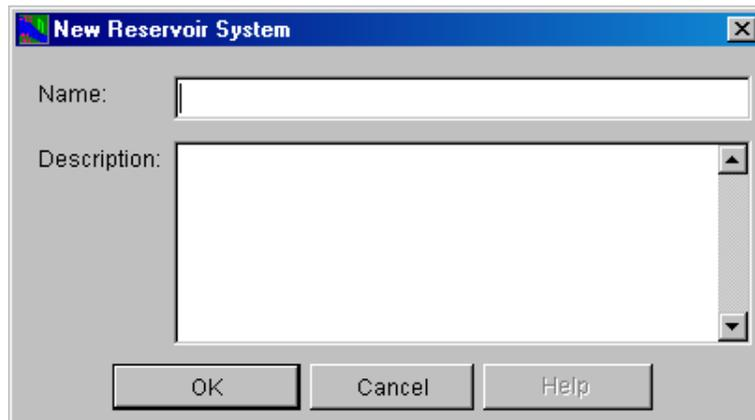

Figure 12.14 New Reservoir System Dialog Box
1. From the **ReservoirSystem** menu, select **New System**. The **New Reservoir System** dialog box will open (Figure 12.14).